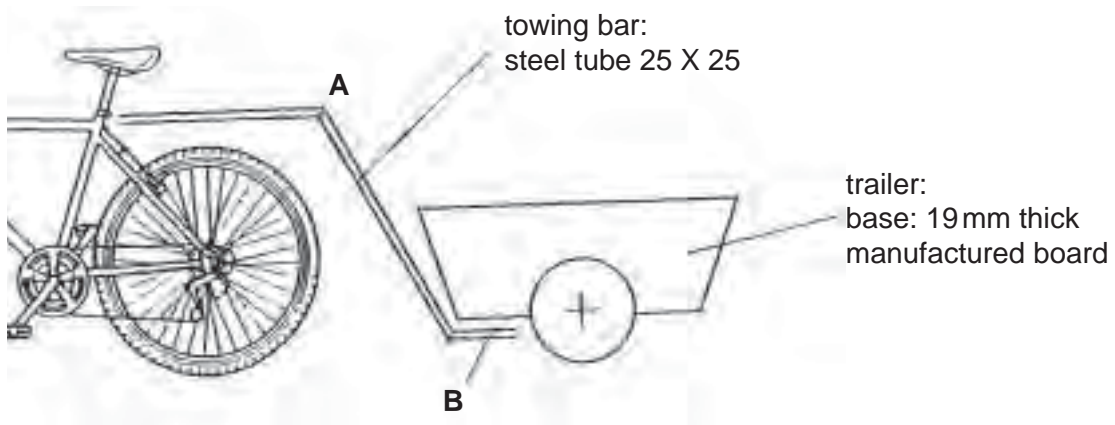

Fig. 7
- 13 Fig. 7 shows a trailer to be pulled behind a bicycle by means of a towing bar made from steel tube.